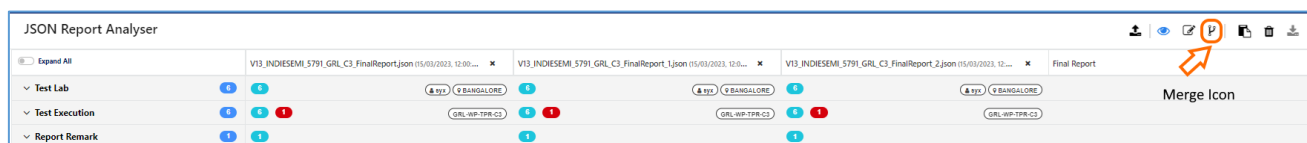

FIGURE 8.90: MERGE ICON
- Click on the Merge icon  as shown in Figure 8.90.